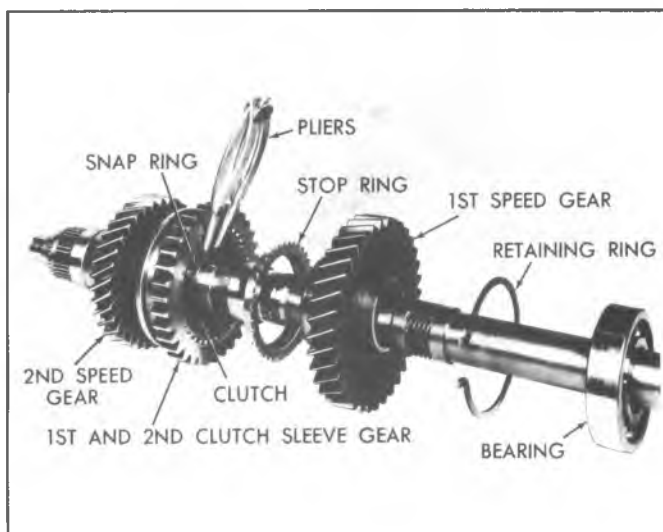

Fig. 11R--Remove or Install Clutch Gear Snap Ring
7. Remove snap ring that retains 1st and 2nd clutch gear and sleeve assembly. Then slide 1st and 2nd clutch gear and sleeve assembly from the mainshaft. Remove 2nd gear. Before cleaning, mark all parts for reassembly. Refer to Fig. 11R.
1. Slide second gear over mainshaft (synchronizer cone toward rear) and down against shoulder on shaft. Refer to Fig. 11R.
2. Slide 1st-2nd synchronizer assembly (including stop ring with lugs indexed in hub slots) over mainshaft, down against 2nd gear cone and secure with a new snap ring. Slide next stop ring over shaft and index lugs into clutch hub slots. Refer to Fig. 11R.